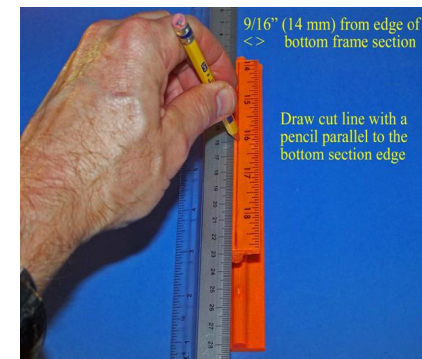

Figure 4
6) Refer to Figure 4. Turn the loopstick frame over so that the bottom (labeled) section is facing up, as shown. Using a ruler, carefully mark points along the bottom flat surface that are exactly 9/16" (14